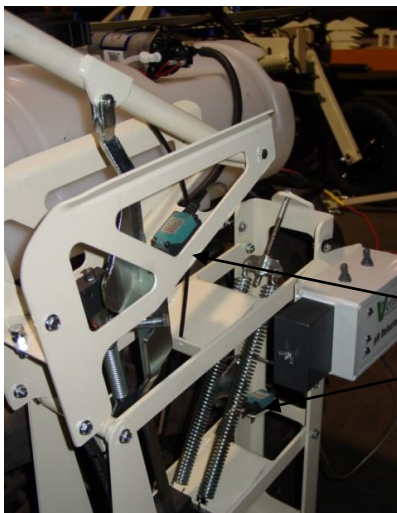

Figure 8
- if LED's light, but are reversed from Figure 8, disconnect weather-pack connectors and re-connect to other switch.